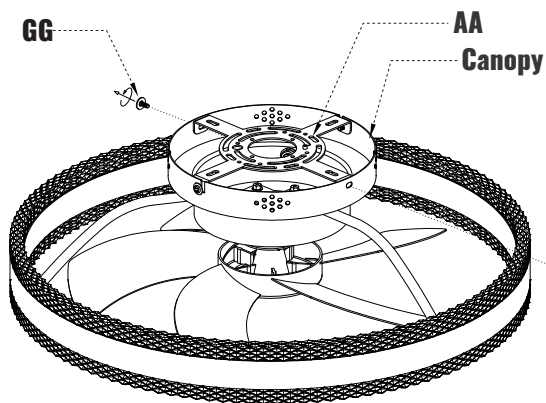

Fig. 1
2. The mounting bracket (AA) and canopy screws (GG) are pre-installed on the fan assembly (A). Refer to Fig. 1 in the 'Install the Mounting Bracket' section for reference.